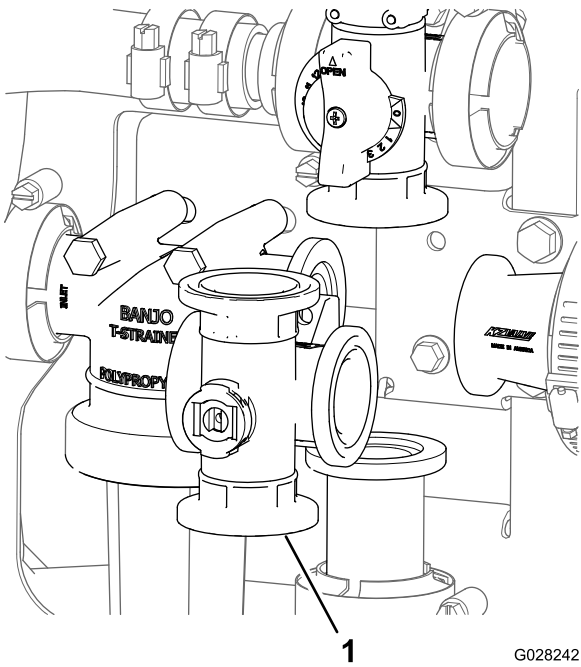

**Figure 134**
1. Remove the clamps and gaskets that secure the manifold for the agitation valve to the agitation bypass valve, pressure-filter head, reducer coupling, and adapter fitting (agitation throttle valve) as shown in Figure 134.